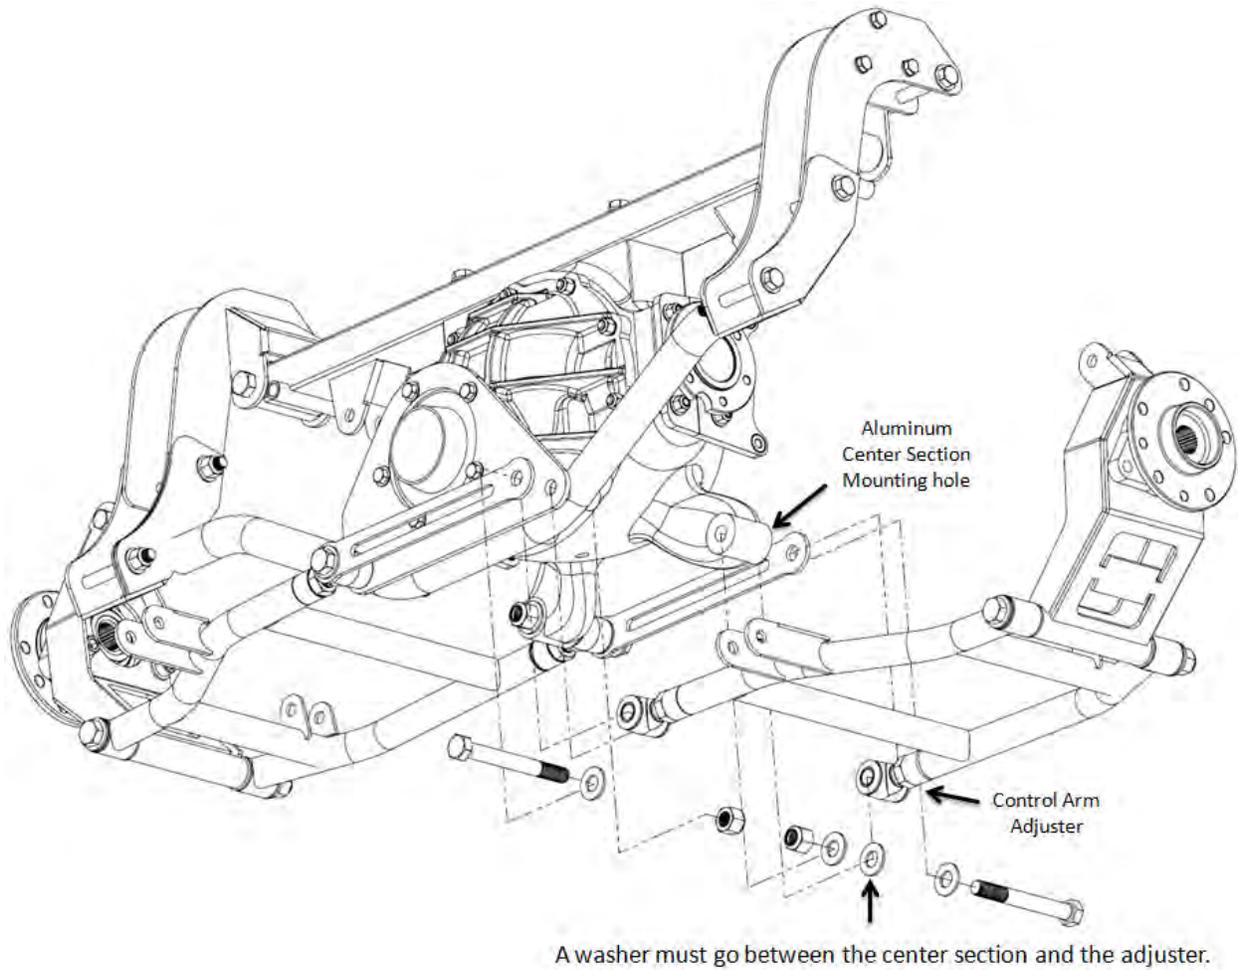
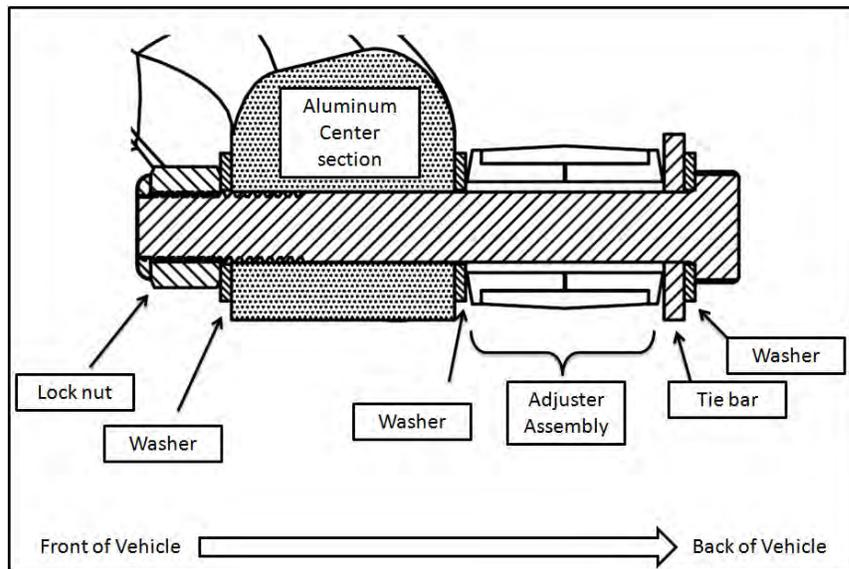

Figure 10. Exploded view of the driver side lower control arm assembly being installed.
Figure 11. Cross Section of Rear Lower Control Arm Joint
- 15) Install the lower control arms to the housing and the pinion plate with the tie bar at the front and rear as shown in Figure 10 using the 5/8" bolts, nuts and washers supplied. One tie bar will be in front of the forward control arm mount, and the pinion support will be behind the forward control arm mount as shown. The second tie bar will be behind the rear control arm mount as shown in Figure 11. Be certain to use washers between the rear adjusters and the housing. Do not tighten the bolts and nuts yet, as the camber is adjusted here by turning the adjusters in our out. The arms should be set with the adjusters with an equal amount of thread showing to make the arms straight out and parallel for now.